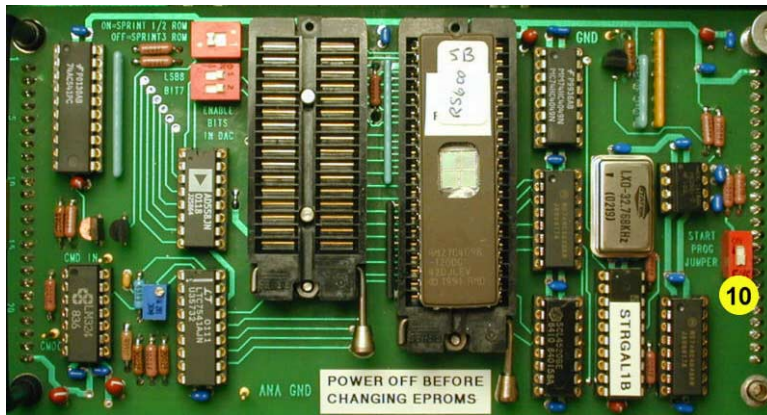

Figure 3: Program Module showing Start Program Switch as (10)
- The Start Program switch on the Program module must be OFF (“10” in Figure 3).
- The Start Program switch on the Program module must be OFF ("10" in Figure 3).